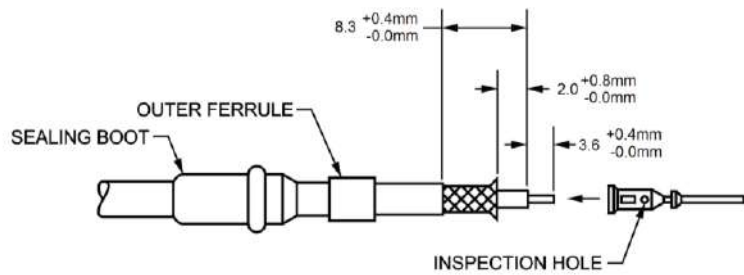

Figure 12-44 Stripping Dimensions, Sealing Boot, Ferrule and Contact Before Crimping the Contact
- Install the sealing boot and slide the outer ferrule onto cable prior to stripping the cable. (See Figure 12-44.)
- Strip cable jacket, braid, and dielectric to dimensions indicated. (See Figure 12-44.) All cuts are to be square and sharp. Do not nick braid, dielectric or centre conductor when cutting. If the wire ends of the centre conductor are frayed, twist them to normal lay.
- Flair the ends of the wire braid to facilitate insertion of inner ferrule of body assembly. (See Figure 12-44.) Do not comb out the braid.
- Place the stripped centre conductor into the contact until the cable dielectric butts against it. End of the wire must show through the inspection hole. (See Figure 12-44.)